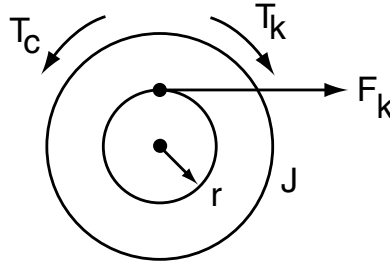

Figure 4:
1.) Figure 4 shows the free body diagram for this system. Summing the torques